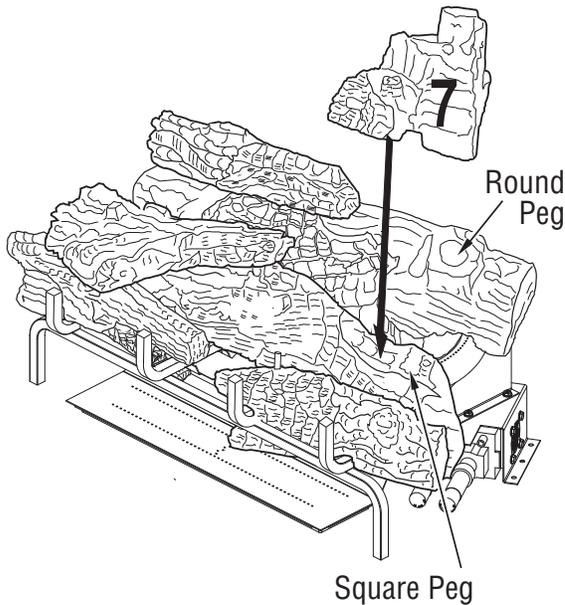

Figure 28 - Installing Log # 7
7. Place the right rear chunk log (#7) on top of the middle log (#2) and rear log (#1) as shown in **Figure 28, Page 17**. Match the round peg on the top of the rear log (#1) with the round hole on the bottom of the right rear chunk (#7) log and square peg on the top of the middle log (#2) with the square hole on the bottom of the right rear chunk log (#7).